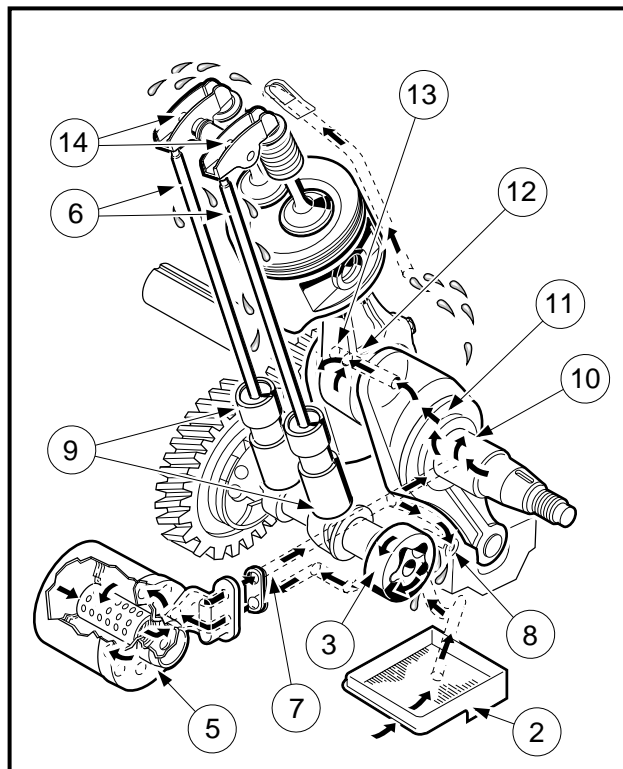
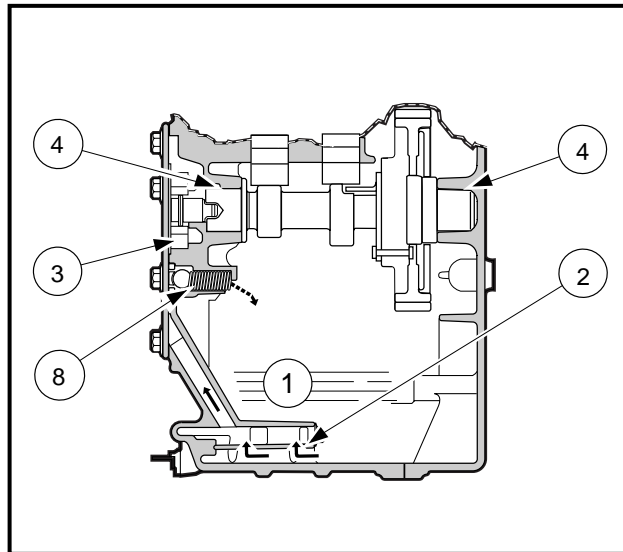
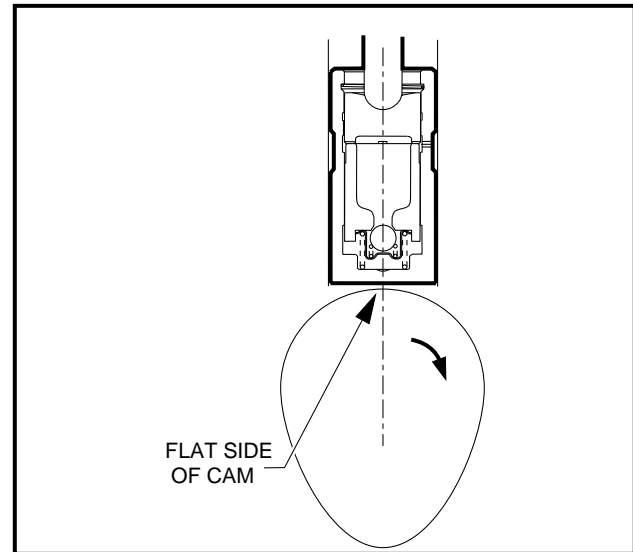

Figure 13-1 Lubrication System
Figure 13-3 Cutaway View of Crankcase
Figure 13-4 Cam Position for Lifter Installation
FE350 engines are equipped with hydraulic lifters and a pressurized lubrication system which consists of these components (Figure 13-1, Page 13-5 and Figure 13-3, Page 13-6):
- Inlet filter screen (2)
- Trochoid pump (3)
- Cartridge filter (5)
- Pressure relief valve (8)
The pump draws oil from the sump and forces it under pressure into the crankcase passages as shown (**Figures 13-1 and 13-2, Page 13-1**). Oil can build up excess pressure in a lubrication system. To prevent build-up of excess oil pressure which could possibly force oil past the seals and damage the engine, the pump is fitted with a pressure relief valve (8) (**Figure 13-1, Page 13-5 and Figure 13-3, Page 13-6**) that is made of a ball and a spring. When the pressure increases beyond the pressure of the spring, the ball is forced off its seat against the spring pressure and excess oil is routed back into the sump (crankcase), thus relieving the pressure. When the pressure drops below the preset limit, the spring holds the ball against its seat to keep the oil from draining back into the sump (crankcase).
FE350 engines are equipped with non-adjustable rocker arms (14) and hydraulic lifters (9) (**Figure 13-1, Page 13-5**). The purpose of hydraulic lifters is to automatically eliminate all valve clearance in the valve train. This zero-clearance condition ensures that the valve begins to open at precisely the same time during each valve event. However, to ensure good seating, there is a small amount of clearance present after the valve closes. This clearance is eliminated by the lifter before the valve is opened again. The installation of the hydraulic lifters at the time of engine assembly does not, in most cases, require any special techniques beyond the normal practice for solid lifter valve trains. There are, however, two areas of concern to be aware of to assure satisfactory installation and initial engine start. New hydraulic lifters are filled with hydraulic fluid at the time of installation and they are at their fully extended position. As each rocker arm is tightened into place, the lifter should be resting on the flat side of the cam lobe (**Figure 13-4, Page 13-6**). If the camshaft is not in the correct position, it may be possible to open the valve beyond its normal operating range. This may cause over-compensation of the valve spring or contact between the valves and the piston.